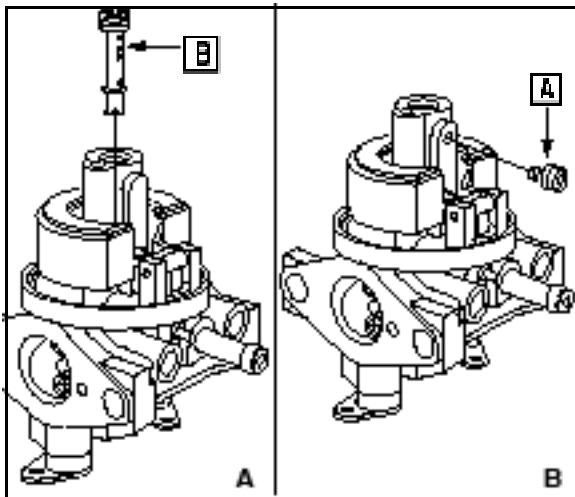

Fig. 54
5. Remove the main jet (A) and the emulsion tube (B) Fig. 54).